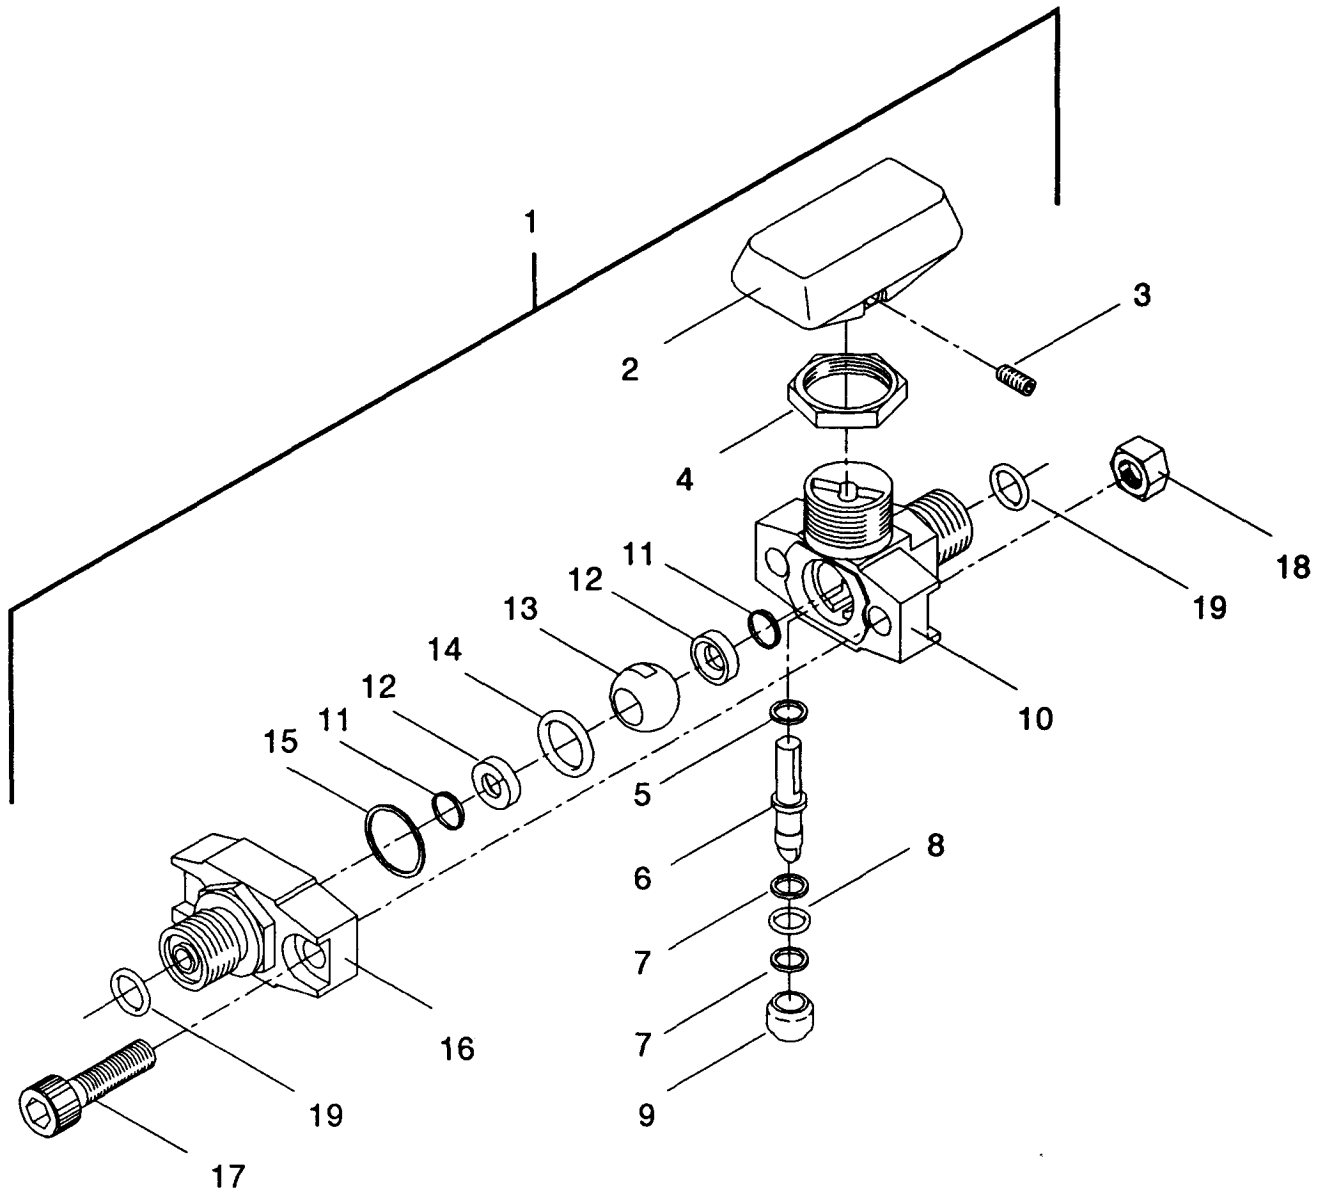

Figure 5-4. HP or LP Pressure Gage Isolation Valve (Item 1)
5-5. Low Pressure (LP) Supply Isolation, Bleed, or Crossover Valve (DACC) (VTA) (DASS). See Figure 5-4.
The valve illustrated in Figure 5-4 is one of four possible valve configurations. Valve configurations differ by handle color or by body half (10 or 16), which may be male or female threads. The configuration depends on valve use in the SDASS. Regardless of the valve configuration, each valve is identical for disassembly and reassembly by the procedures listed herein.